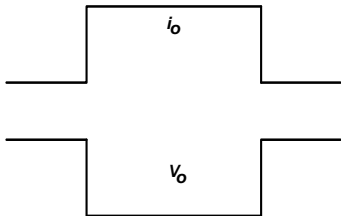
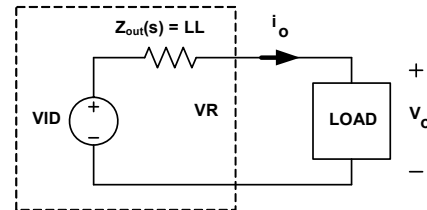

FIGURE 23. DESIRED LOAD TRANSIENT RESPONSE WAVEFORMS
FIGURE 29. VOLTAGE REGULATOR EQUIVALENT CIRCUIT
Assuming the compensator design is correct, Figure 23 shows the expected load transient response waveforms if  $C_n$  is correctly selected. When the load current  $i_{core}$  has a square change, the output voltage  $V_{core}$  also has a square response.
Figure 23 shows the desired load transient response waveforms. Figure 29 shows the equivalent circuit of a Voltage Regulator (VR) with the droop function. A VR is equivalent to a voltage source ( $= V_{\text{ID}}$ ) and output impedance  $Z_{\text{out}}(s)$ . If  $Z_{\text{out}}(s)$  is equal to the load line slope LL, i.e., a constant output impedance, then in the entire frequency range,  $V_o$  will have a square response when  $i_o$  has a square change.